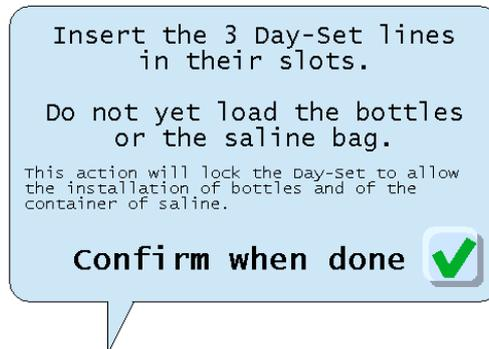

Figure 25: Day Set III HP correctly installed message
5. *Figure 25: Day Set III HP correctly installed message*). Please follow the instructions below without confirming the verification message (confirmation is at step 8 of the procedure, on page 54).